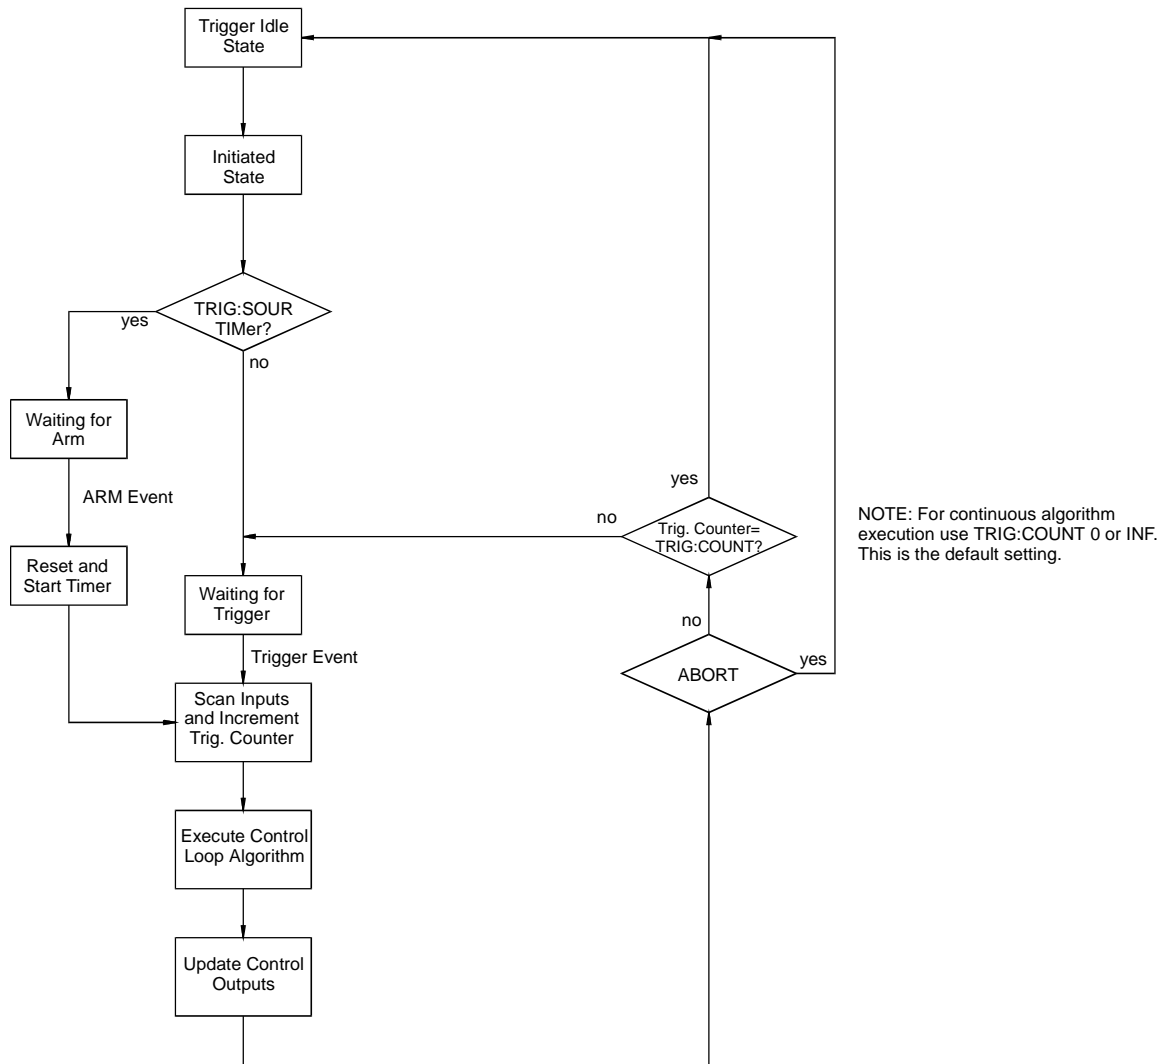

Figure 6-7. Trigger/Scan Sequence Diagram
**Event Sequence** Figure 6-7 shows how the module responds to various trigger/arm configurations.
**TRIGger:COUNT** <*trig\_count*> sets the number of times the module can be triggered before it returns to the Trigger Idle State. The default count is 1. Note that this default was chosen to make testing data acquisition scan list easier (only one scan list worth of data in FIFO per trigger). For algorithm operation, you will probably want to change the count to INFinite to accept continuous triggers. See Figure 6-7 on page 352